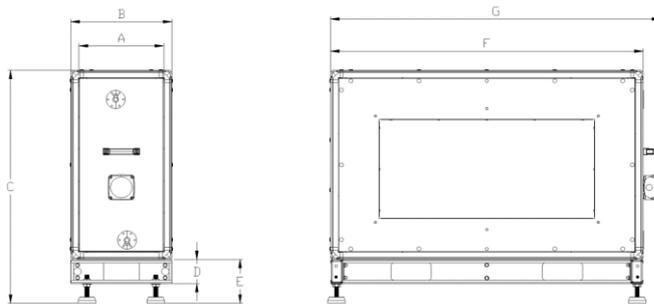

Fig. 39
- EVO-50R/ 60R/ 80R/ 95R/ 120R/ 150R water after heater capacities, weights and dimensions can be seen below. (Fig. 39)